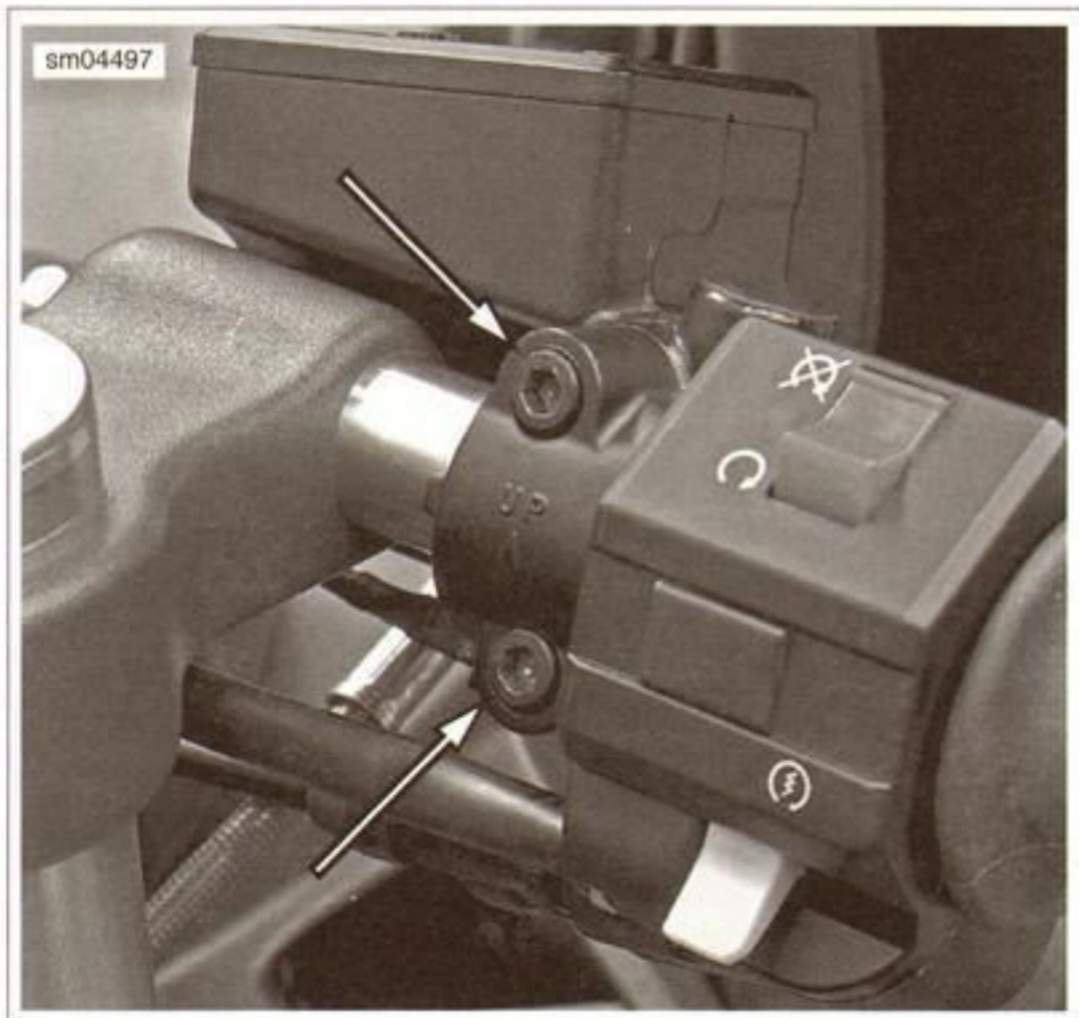

Figure 2-141. Master Cylinder/Reservoir Clamp
- See Figure 2-141. Remove the two fasteners and the front brake master cylinder/reservoir and lever assembly.